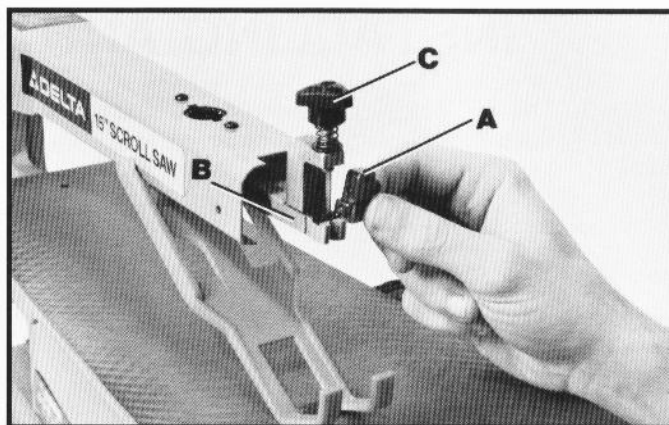

Fig. 21
3. Insert blade holder (A) Fig. 21, into upper rocker arm (B), and tighten blade holder locking knob (C) to securely clamp blade holder (A) in position.